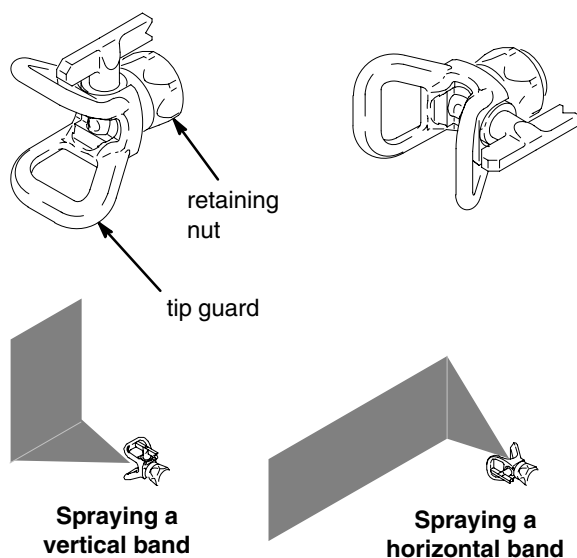

Fig. 3
If you suspect that the spray tip or hose is completely clogged or that pressure has not been fully relieved after following the steps above, VERY SLOWLY loosen the tip guard retaining nut (Fig. 3) or hose end coupling and relieve pressure gradually, then loosen completely. Then clear tip or hose obstruction.
2. Turn the tip guard by hand to change the orientation. Fig. 3.